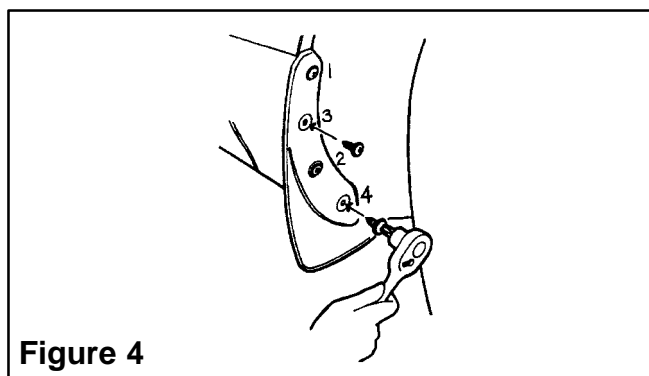

Figure 4
4. Remove the antenna spacer grommet at the top of the antenna assembly and inspect for corrosion. Clean with 1500 grit sandpaper (Fig. 4).
Note: There are no holes in plastic cladding at points 3 and 4, so please use mudguard as a template to locate proper location of holes and apply pressure firmly on the self-tapping screws to pierce cladding and tighten screws (See Figure 4).